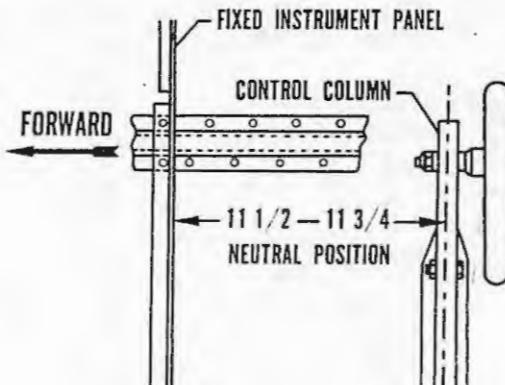

Figure 2-43. Control Column Neutral Setting
- b. Adjust cable turnbuckles alternately until both cables have 120 ± 10 pounds tension and control column position is from 11-1/2 to 11-3/4 inches from the instrument panel stationary mounting (figure 2-43).